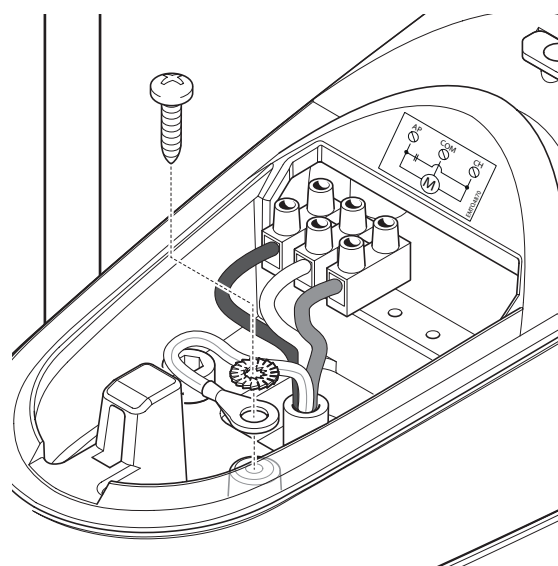

Fig. 15
**03.** Connect the various wires and grounding cable, exactly as shown in the wiring diagram of **fig. 15**;